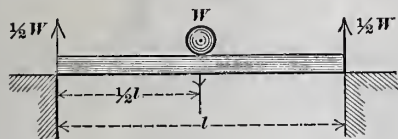

Fig. 14.—Beam Supported at Both Ends, Loaded at Center.
3. For a beam supported at both ends and loaded in the center with W , Fig. 14, the abutment reaction at either abutment will be $\frac{1}{2}W$, and the leverage $\frac{1}{2}l$; therefore